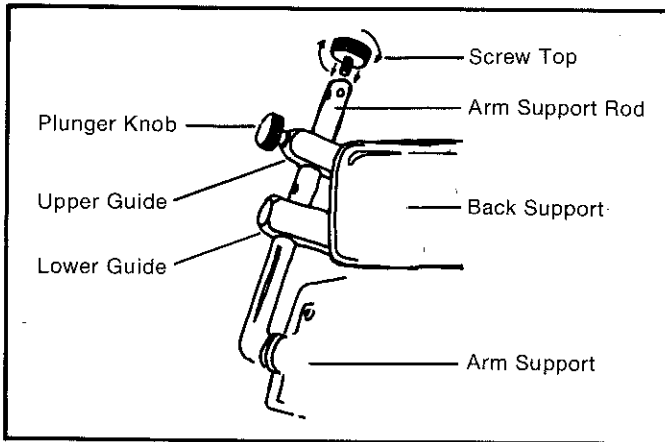

Figure 2-14
7. Replace screw top, removed from hanger rod earlier, into top of arm support rod. Figure 2-14. Repeat for opposite arm support rod.